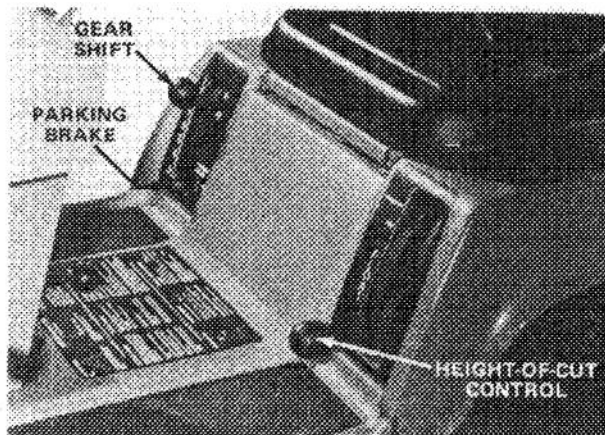

Figure 16
Parking Brake (Fig. 16) — Parking brake is used in conjunction with standard brake assembly. When brake pedal is depressed and parking brake lever is pulled upward, a latch plate secures the brake assembly in the engaged position preventing the machine from moving.
Gear Shift (Fig. 16) — Transmission has five forward speeds, neutral and reverse, and has an in-line shift pattern. An interlock switch, which prevents
Height-of-Cut Control (Fig. 16) — Height-of-cut control varies the cutting height from 1 to 4-1/2 inches (25 mm to 114 mm) in seven positions.
1. Assure the blade control lever is in disengage position (Fig. 16).